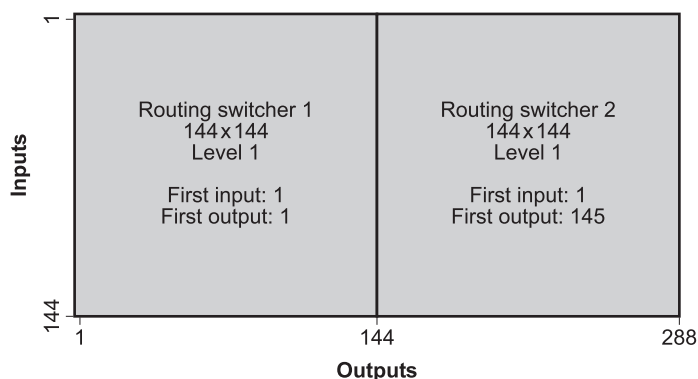

Figure 5.4 Offsetting two routing switchers for common inputs and parallel outputs
- with common inputs and parallel outputs (see **Figure 5.4**)